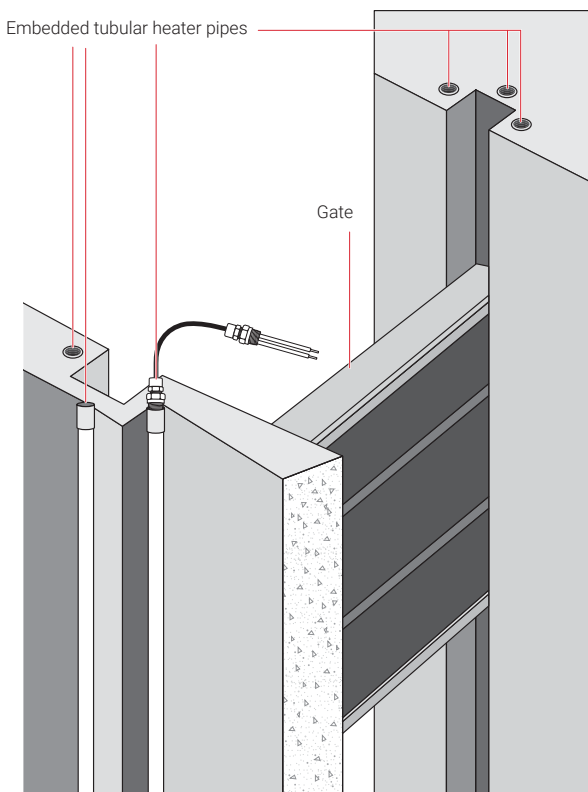

Figure 26: Typical tubular heater installation
2. Install the pipes for the tubular heaters and the temperature sensor per the project design specifications. Figure 26 shows a typical pipe installation for tubular heaters used in vertical dam gates.